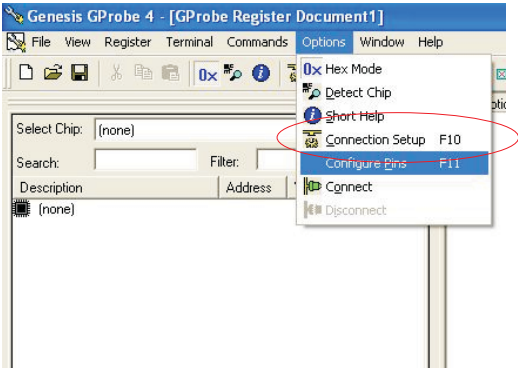

Fig.7
- 4. Press the options then choose connection setup as shown in Fig.7